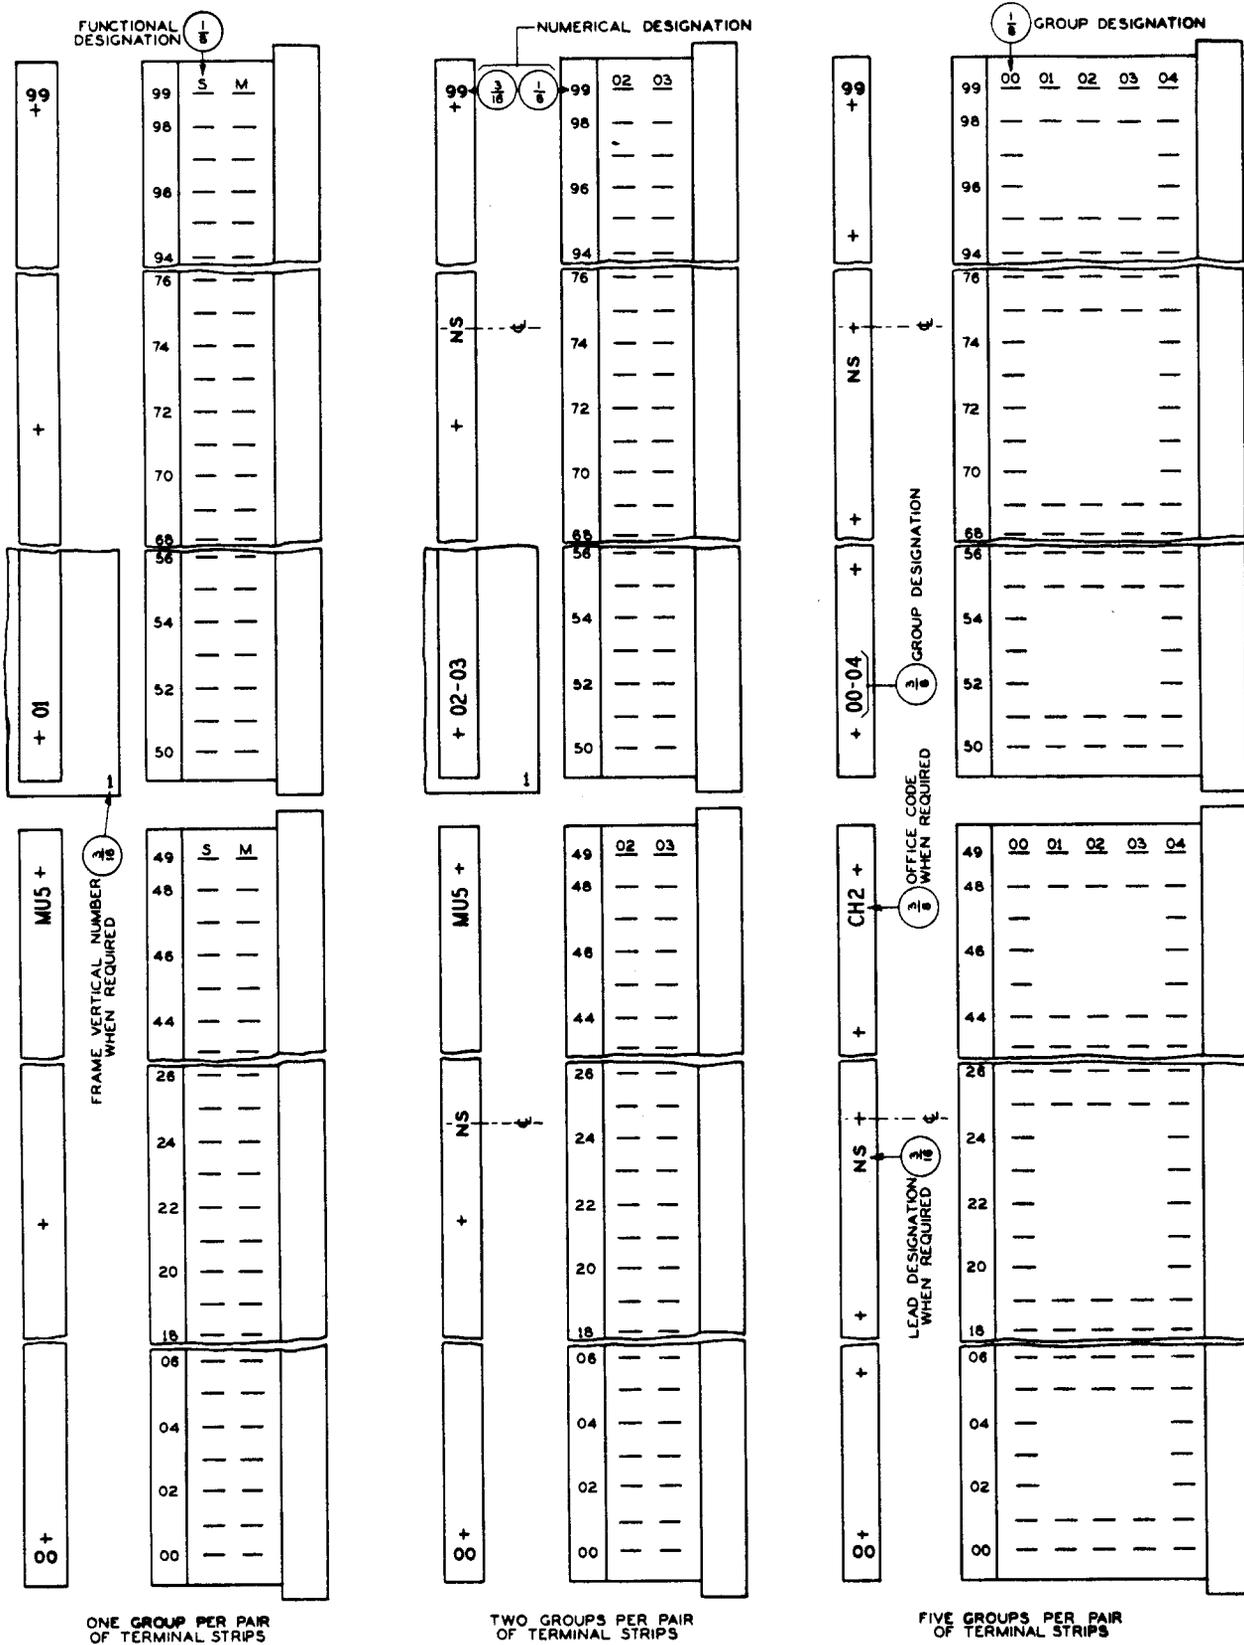

Fig. 33 - Terminal Strips - Subscriber Number - LDF
2.21 Vertical numbers shall be stamped on the fourth terminal strip from the floor on each vertical, as shown in Fig. 33, except when line distributing frame equipment is located at the main distributing frame and vertical numbers are stamped on cable designation board.
Terminal Strips: Stamp the group designation (hundred number 00, 01, etc, to 99; extra number letter A, B, etc; or span of either 00-01, 00-04, A-B, A-D, etc) on the face of the terminal strip clamping strip for each pair of terminal strips. Also, on the first and last verticals serving the regular and extra numbers of an office, stamp the office code for each pair of terminal strips and, when automatic message accounting is used, stamp the lead designation NS on each of these terminal strips. (See Fig. 33.)